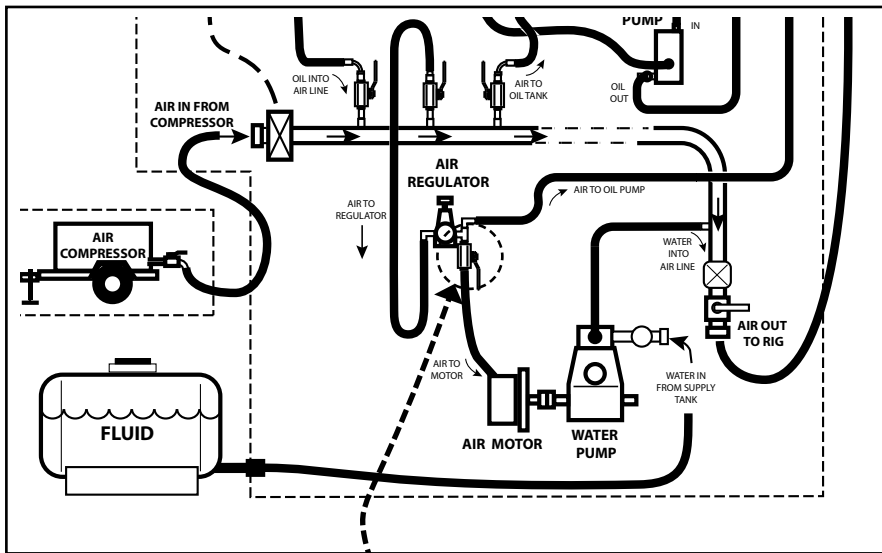

Fig. 58
- When not operating the drill and there is the potential for freezing conditions, drain water from the water tank and inlet lines of the pump, then anti-freeze the pump (see Fig. 58).
The water pump is driven by an air motor that is coupled to the input shaft of the water pump. A ball valve (water flow rate) on the line to the air motor controls the RPM of the water pump and the resulting amount of water (gpm) being introduced into the drilling operation. With the valve fully opened, the maximum amount of 5 gpm will be pumped. A "clean bore" is obtained depending on drilling conditions. Approximately 1/2 to 4 gallons per minute can produce good results, however soft rock may require more water and hard rock may require less water. Begin a new bore with the water flow rate valve set to **half open**, until drilling conditions can be determined, then adjust the valve setting for more or less water (while drilling) as the situation dictates (see Fig. 58 & 59).